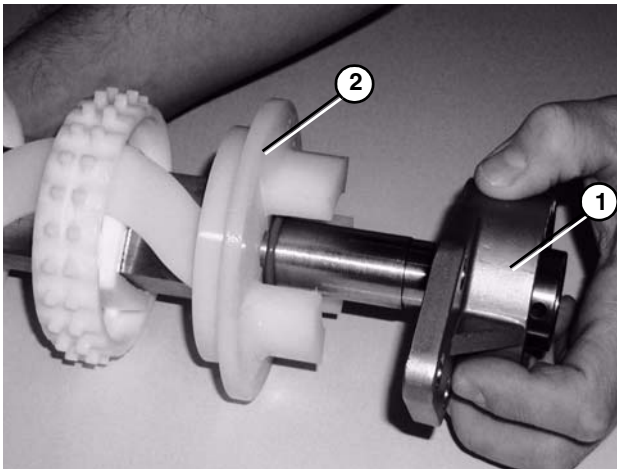

Figure 57
9. Slide the 3 hole flange with bearing (Figure 57, item 1) and flanged puck (Figure 57, item 2) off the drive spindle.